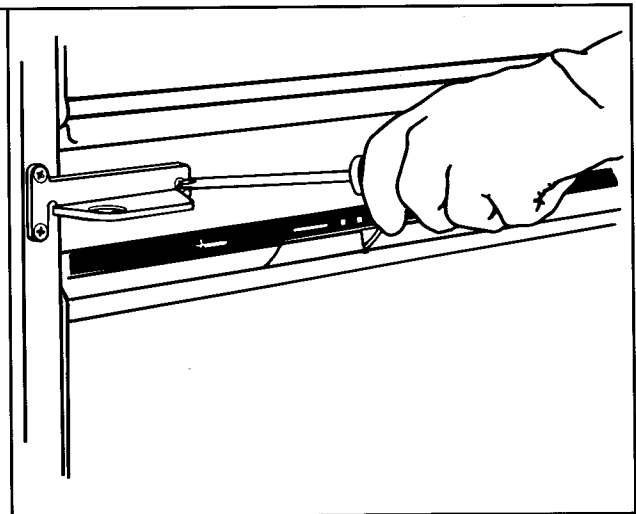

Figure 41
- c. Secure bracket with three Phillips head screws removed from other side. See Figure 41.